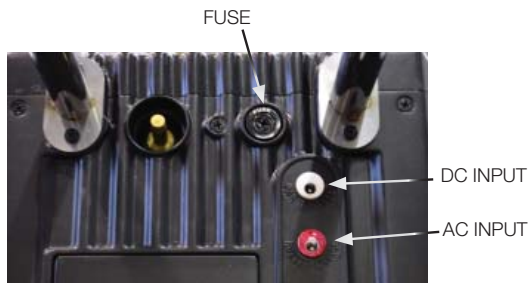

Fig. 5
2. AC: Connect the 120V AC adapter to the appliance then connect the 3 pin AC plug to a suitable outlet (FIG. 5)
3. DC: Connect the 12V DC adapter to the appliance then connect to a suitable outlet with the cigarette lighter (FIG. 5)